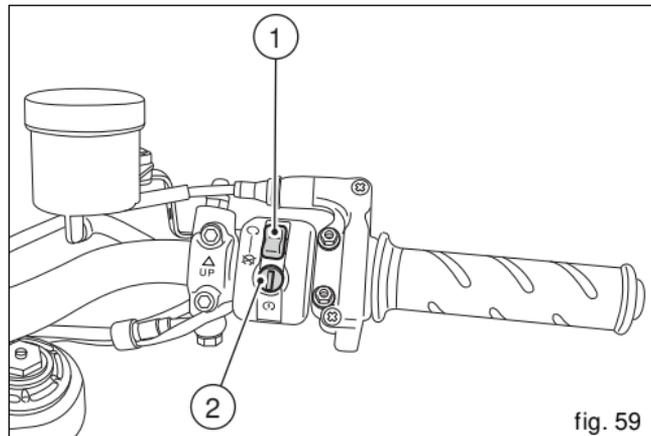

fig. 59
- E** 2) Check that the stop switch (1, fig. 59) is positioned to  (RUN), then press the starter button (2).